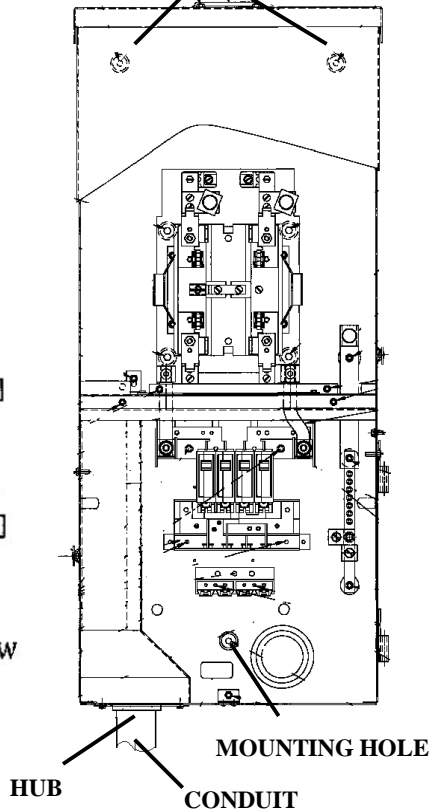

Figure 3
3. Install conduit hub (Figure 3)
4. Mount Box (Figure 3)